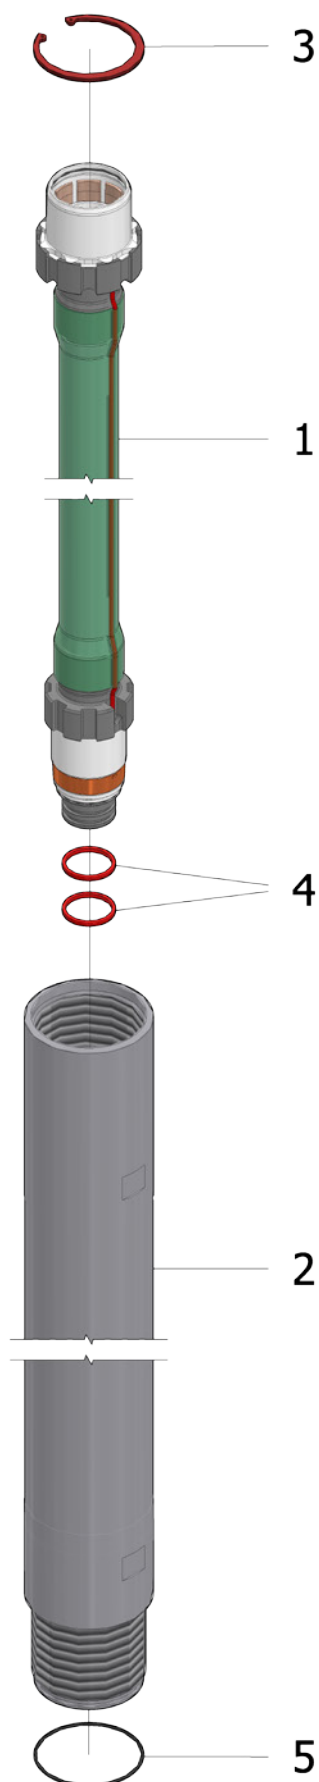

FIG. 3.16
D.114 MWJ ROD: J-1C212S10-MWJ (L=1000); J-1C212S20-MWJ (L=2000); J-1C212S30-MWJ (L=3000) (REF. FIG. 3.16)